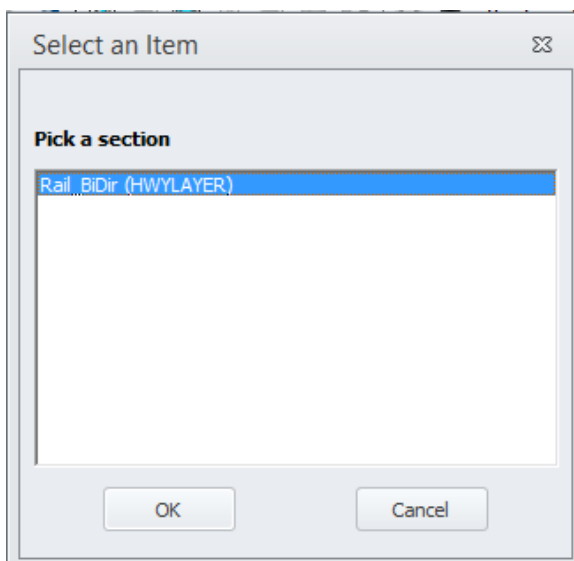

Figure 110 Select layer
- 4) Select the layer having the same name of the current network (e.g., Rail_BDir), see Figure 110.